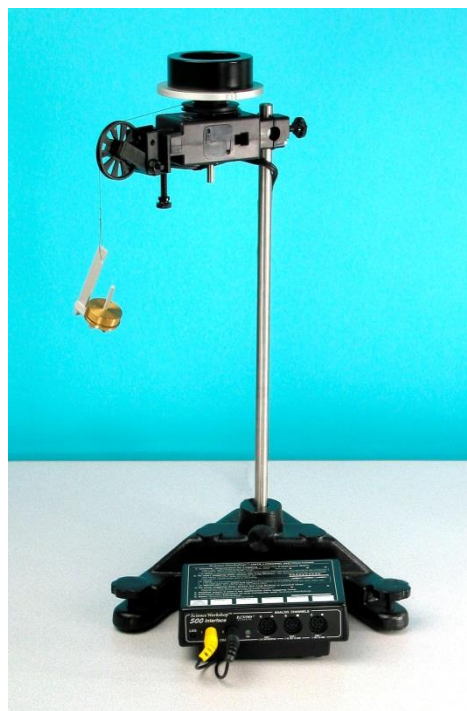

Figure 3: Setup
1. Set up the rotational apparatus as shown in Figure 3. The thread should be tied around the smallest step on the Rotary Motion Sensor pulley, then threaded down through the edge hole, and wrapped around the middle step of the pulley.